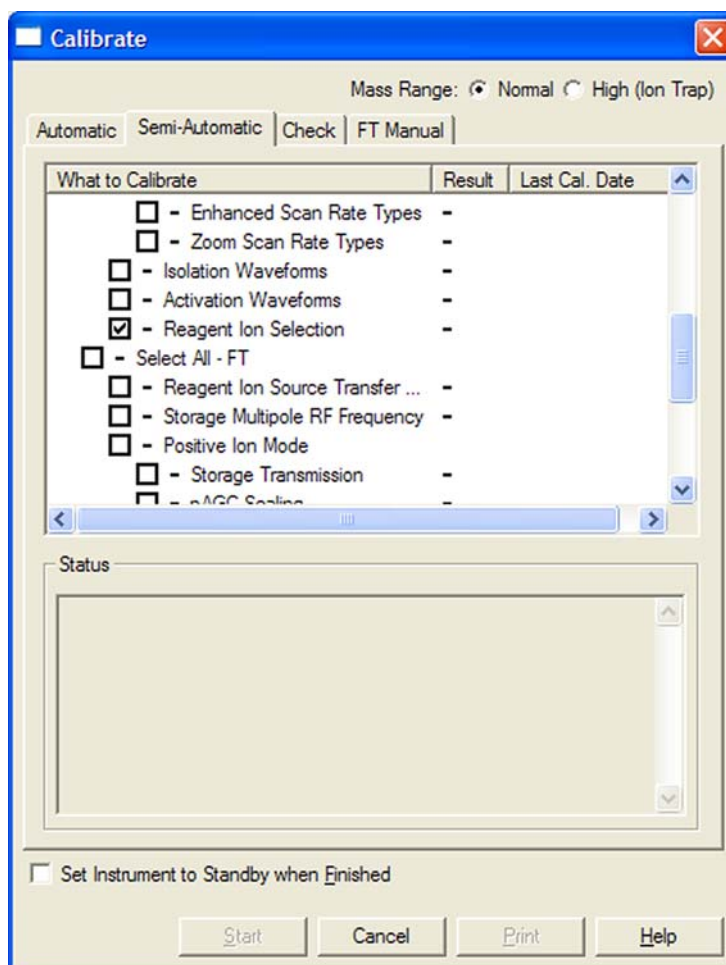
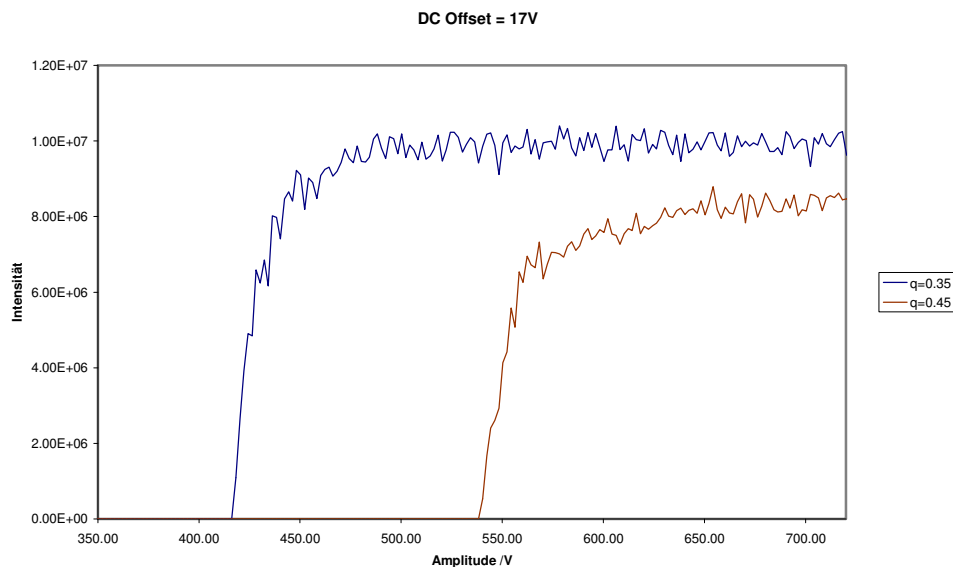

Figure 7-20. Calibrating the Reagent Ion Selection
Figure 7-23. Point of optimum performance
- Open the Calibrate dialog box and perform a semi-automatic calibration of the Reagent Ion Selection. See Figure 7-20 on page 7-23 and Figure 7-23 on page 7-25.
With offset voltages between 15 V and 20 V, no nodding is visible. See Figure 7-23. The transmission reaches a maximum shortly after the start of the stable region, resulting in a high transmission at optimum filter efficiency. The calibration results in a broad plateau with constant intensity.